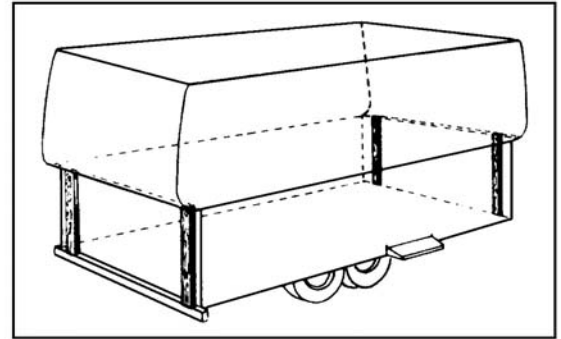

Figure 4
- A. Lower the top section onto 2"x4" boards. Refer to Fig. 4